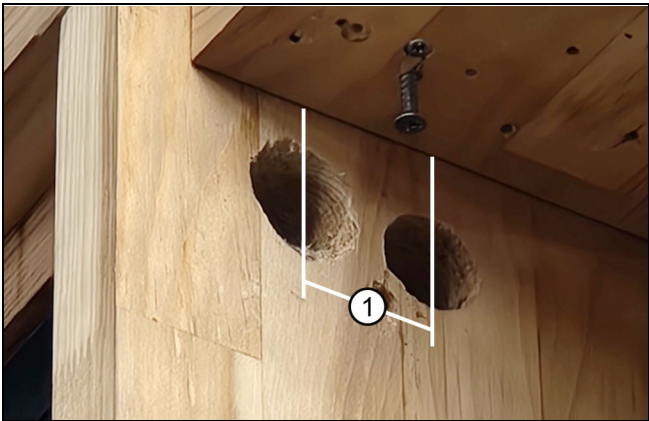

Figure 1
- 1. Option A: Drill into the stud adjacent to the interior most track of the door with a 1 1/4" hole saw. See Figure 1.